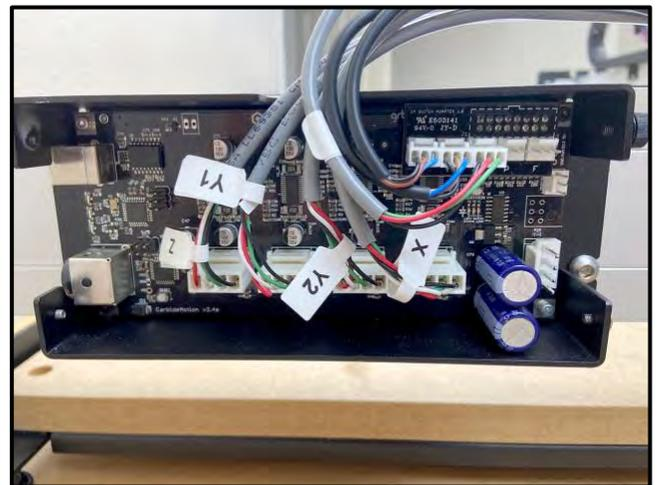

Figure 39
1. Plug the PCB riser board into the Carbide Motion board. See **Fig. 39**.
2. Plug the proximity switch cables and stepper motor extension cables into the Carbide Motion board. See **Fig. 39**.